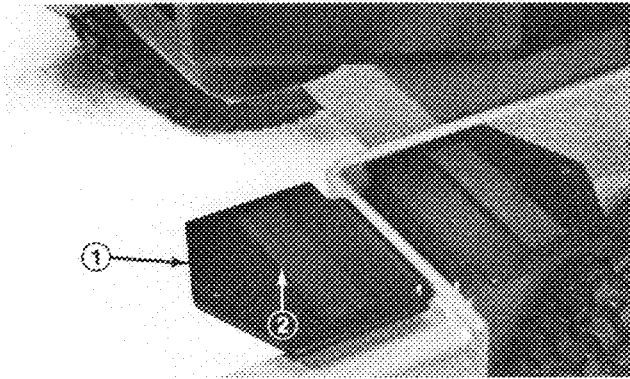

Figure 13
1. Mount battery holders to left rear corner of cutting unit carrier frame with (2) 3/8-16 x 1.75" capscrews and locknuts (Fig. 13).
2. Peel off backing from battery pads and affix pads to battery holder, positioning as shown in Fig. 13.